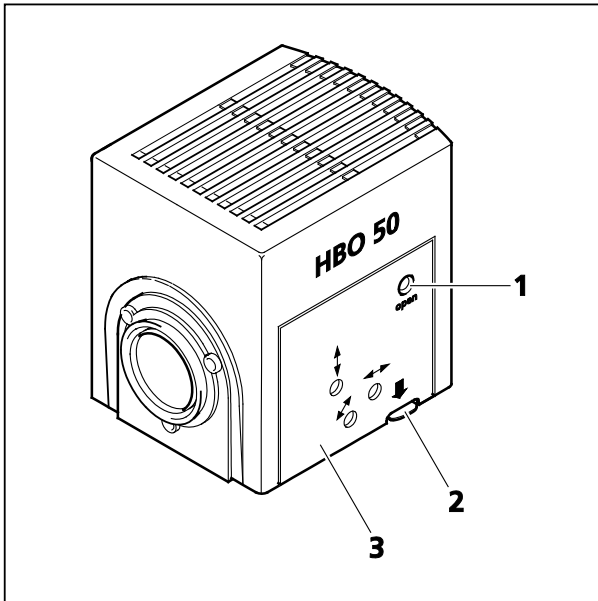

Figure 3-21 Opening the HBO 50
- Unscrew the clamping screw (Figure 3-21/1) using a ball head screwdriver (width A/F 3).
- Push down the unlock key (Figure 3-21/2) of the HBO 50, pull out the bulb holder (Figure 3-21/3) completely, and lay it down separately.
- Insert the bulb holder into the lamp housing, and push it in until it locks into place. Tighten the clamping screw (Figure 3-21/1).